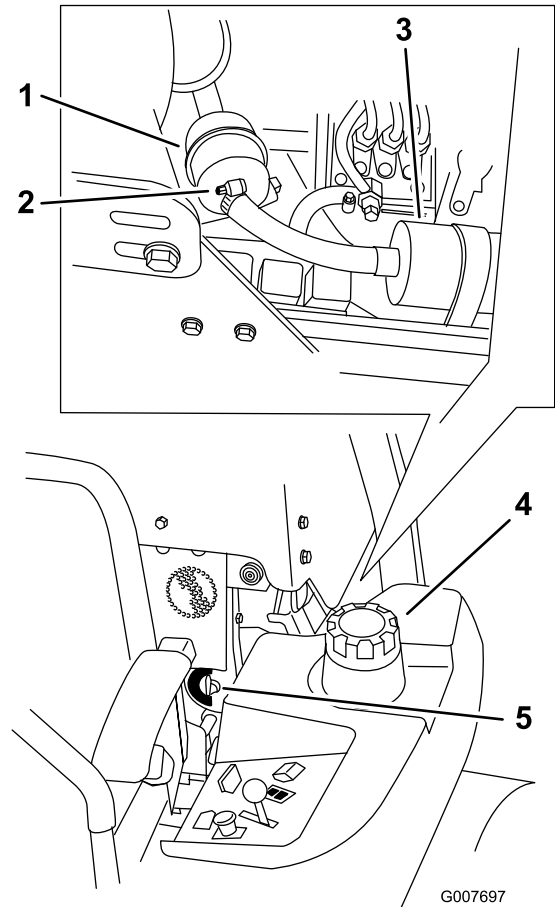

Figure 44
4. Close the fuel shut-off valve (Figure 44).
5. Loosen the two hose clamps and disconnect the fuel lines from the fuel filter (Figure 44).
6. Install a new filter. Connect the fuel lines to the fuel filter and install the two hose clamps (Figure 44).